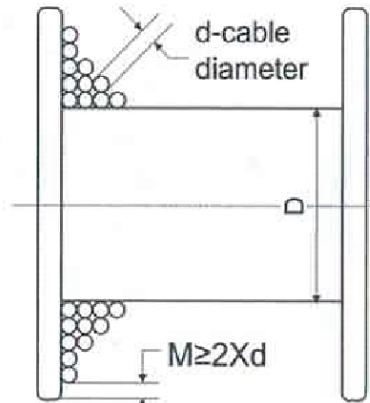

Fig.1
2. **Avoid sideways cable slip.** The cable under a load should only be wound on to the drum to such an extent that a minimum space of 2 times the cable diameter remains on the drum flange (Fig.1). Winch overloading and a sideways cable slip will here be avoided.